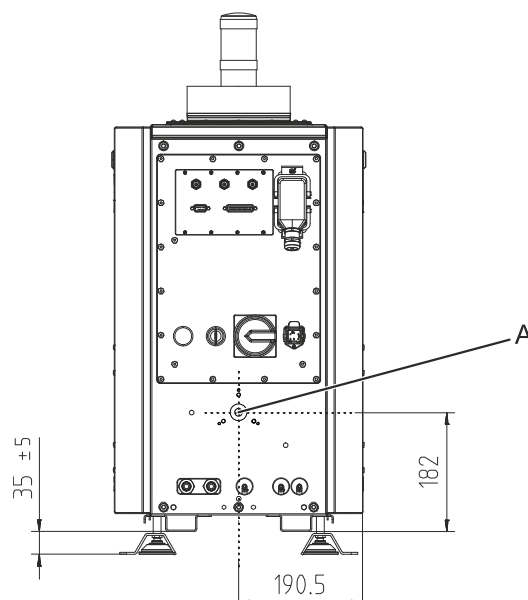

Figure 9: Diagnostic beam exit position
The location of the diagnostic beam exit aperture on the connection side of the laser device is shown in Figure 9 (A).